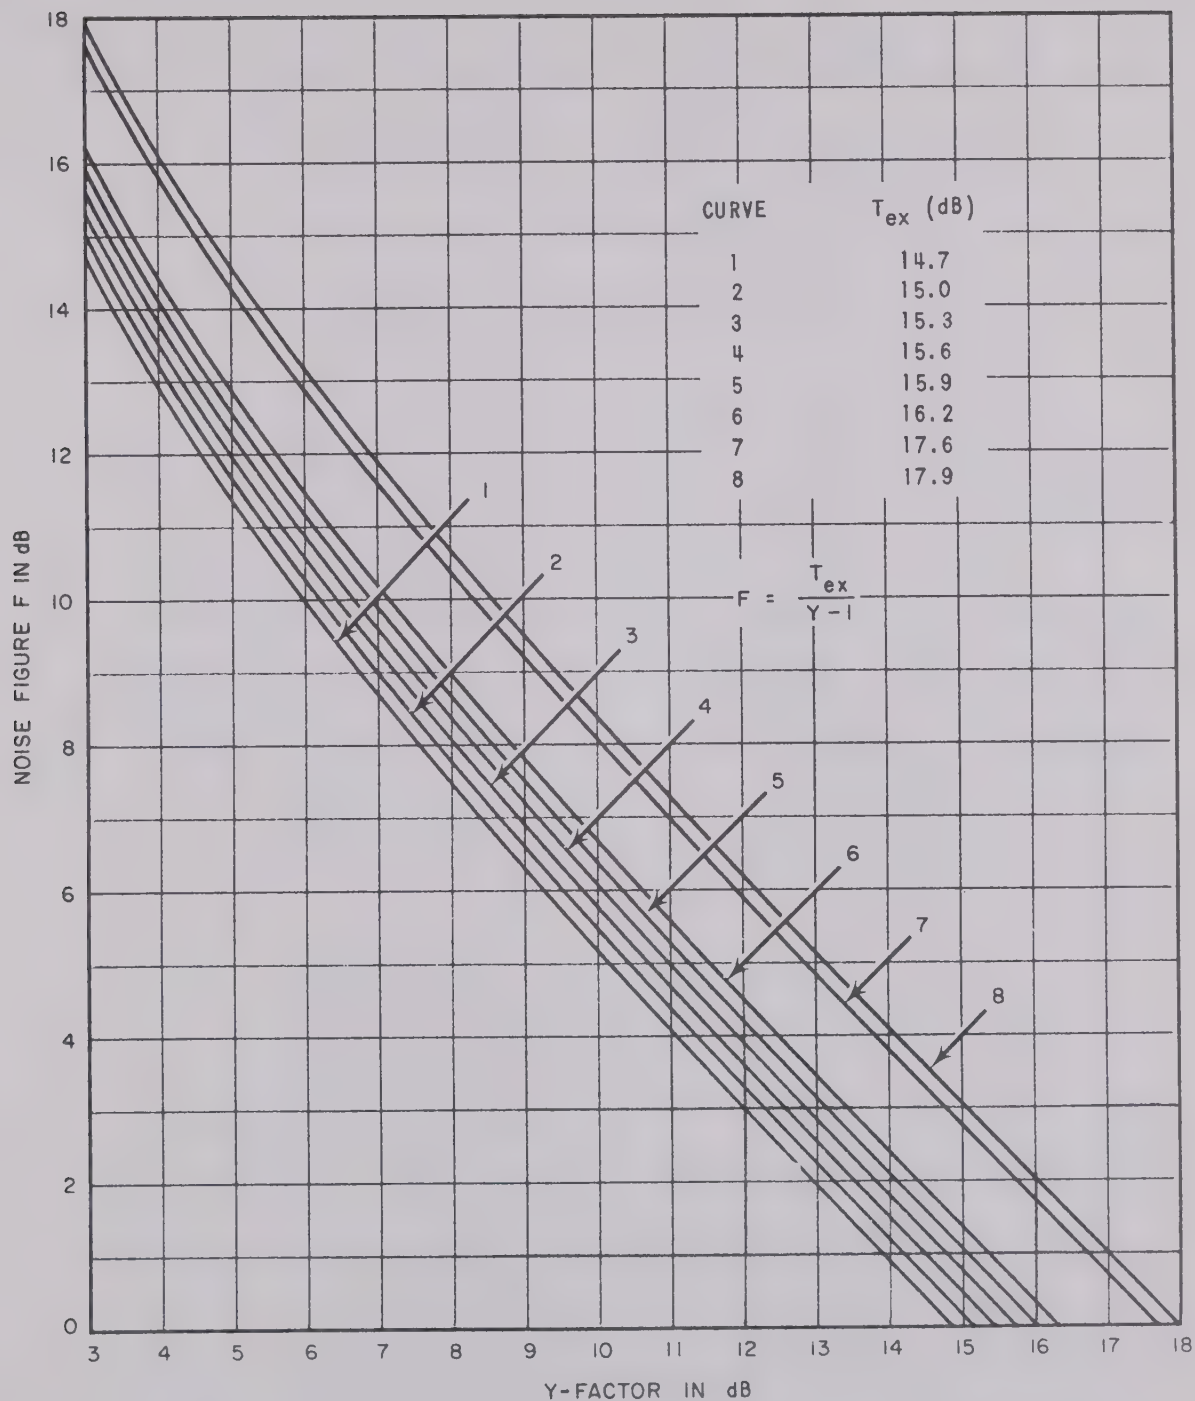

FIGURE 2. MEASURED NOISE FIGURE
Instead of actual computation, noise figure can be determined from Figure 2 if the excess noise ratio (T_{ex}) of the noise source (see Section II) is equal to one of the values shown in Figure 2. Excess noise ratio is defined:
If the excess noise ratio of the noise source is other than one of the values shown in Figure 2, noise figure can be determined as follows:
1. Determine noise figure from the graph (Figure 2), assuming $T_{ex} = 15.3$ dB.